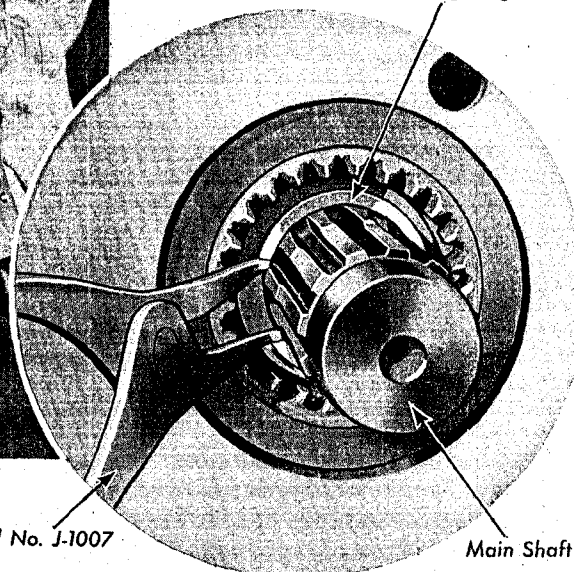

Fig. 24 Removal of Locking Ring for Intermediate Speed Gear
20. Push main shaft toward front end of case as far as possible and remove locking ring holding intermediate speed gear in position on main shaft, using tool J-1007, as shown in Plate 56, Fig. 24.